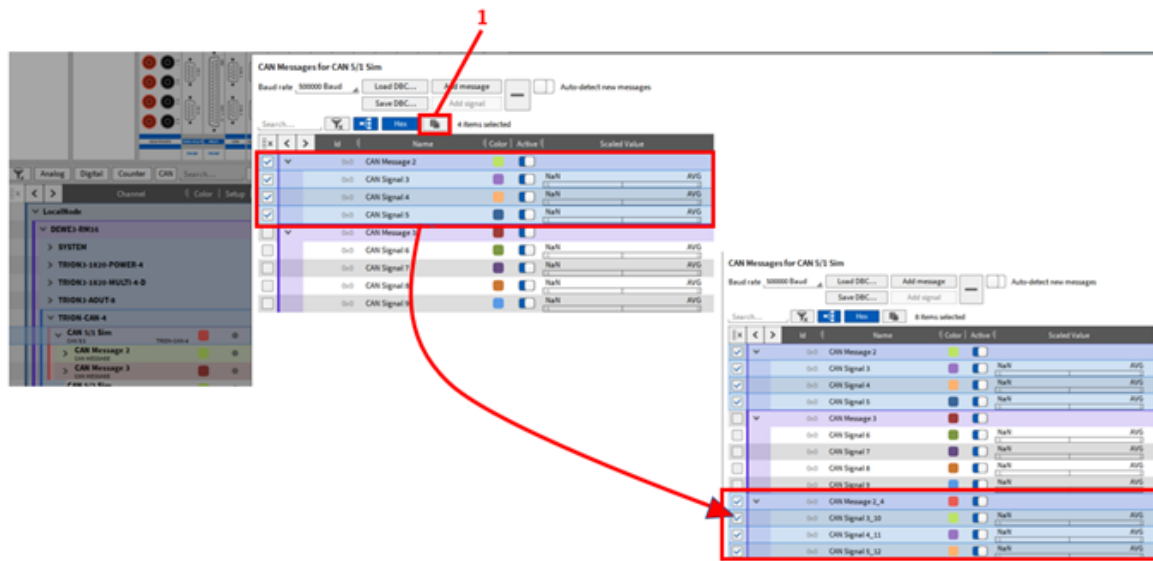

Fig. 4.53: CAN messages and signal settings (2)
- By pressing the button “1” (see Fig. 4.53), the marked CAN messages and signals are copied and added to the list of existing CAN messages and signals including the settings.